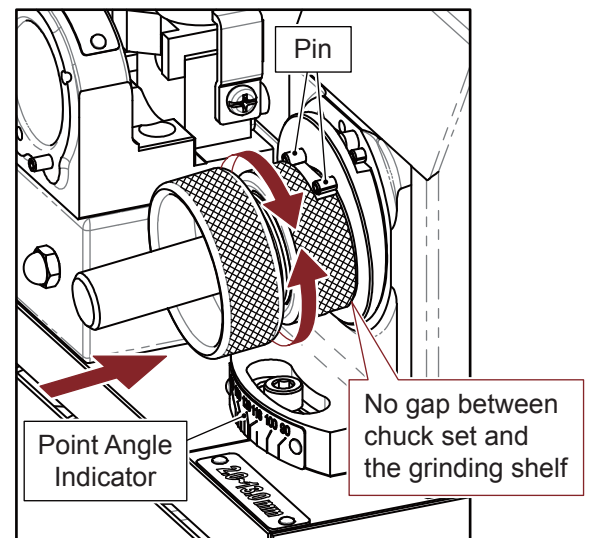

Fig. 8-1
1. Cutting Lip Grinding (Fig. 8-1)
① Insert the chuck set into the cutting lip grinding shelf, the slot of clamping nut must fit with the two pins on the shelf, push the chuck set gently and turn it clockwise and counterclockwise until the grinding noise stops.
② Take the chuck set out, turn it to the other side and grind the drill in the same way.